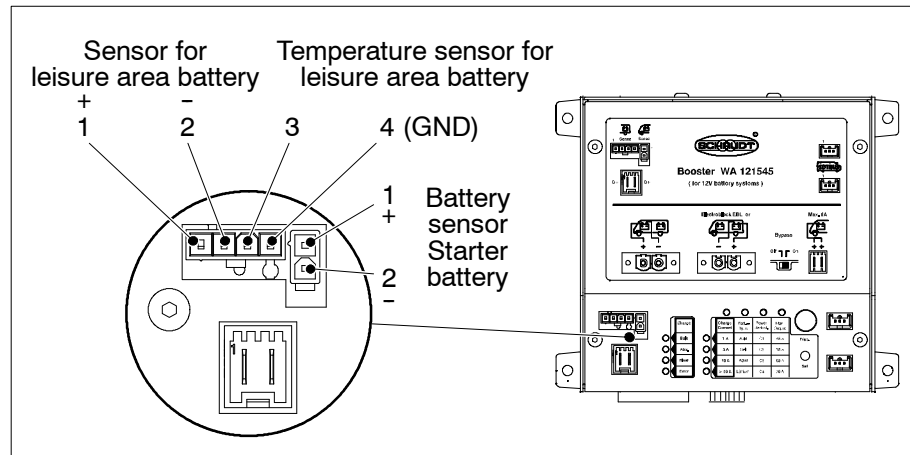

Fig. 10 Temperature sensor: Connection
- ▶ Plug the connector into the booster (Figure 10, Pos. 1).
- ▶ Connect the battery sensor cables to the booster as in Figure 10.